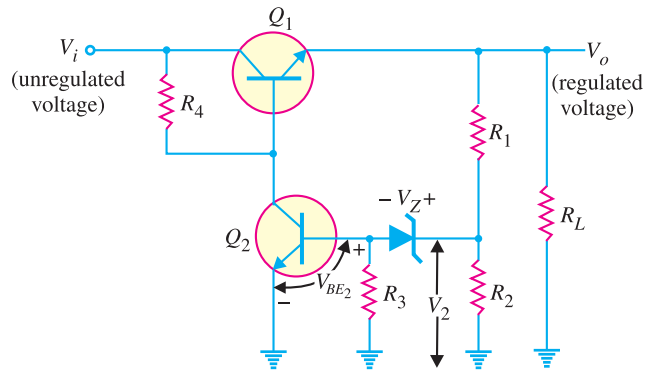

Fig. 17.33
3. What regulated output voltage is provided by the circuit of Fig. 17.33 for circuit elements : $R_1 = 20 \text{ k}\Omega$, $R_2 = 30 \text{ k}\Omega$ and $V_Z = 8.3 \text{ V}$? [15 V]